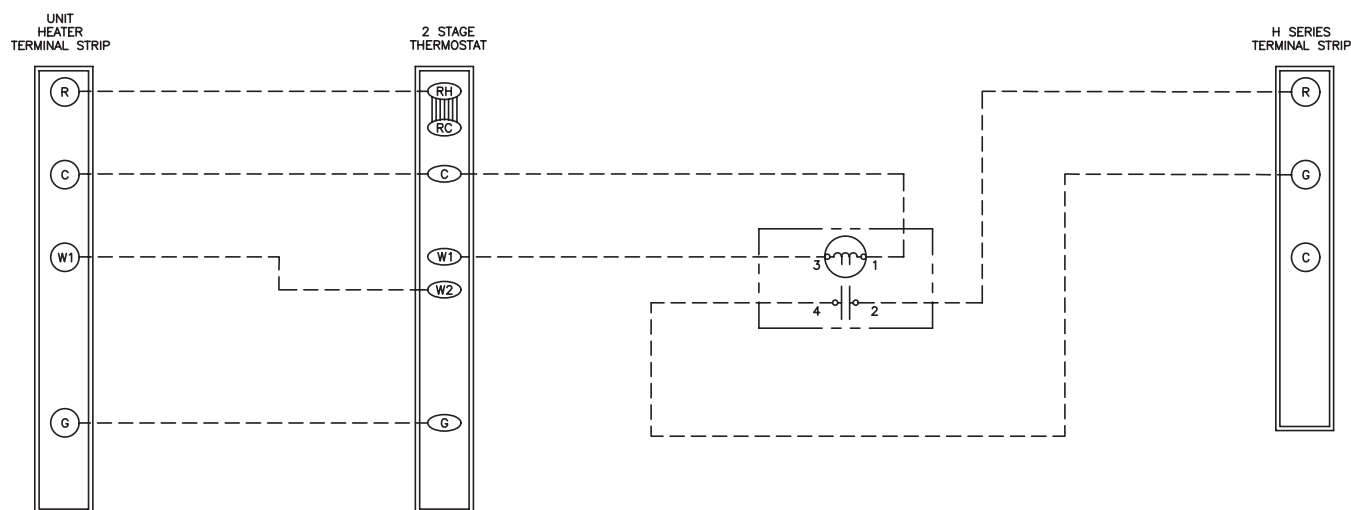

Figure 8. Heater and Destratification Fan Wiring Diagram
- If the installation features a heater and a model H destratification fan controlled by a single two-stage thermostat, ensure that the wiring is in accordance with the wiring diagram shown in Figure 8.